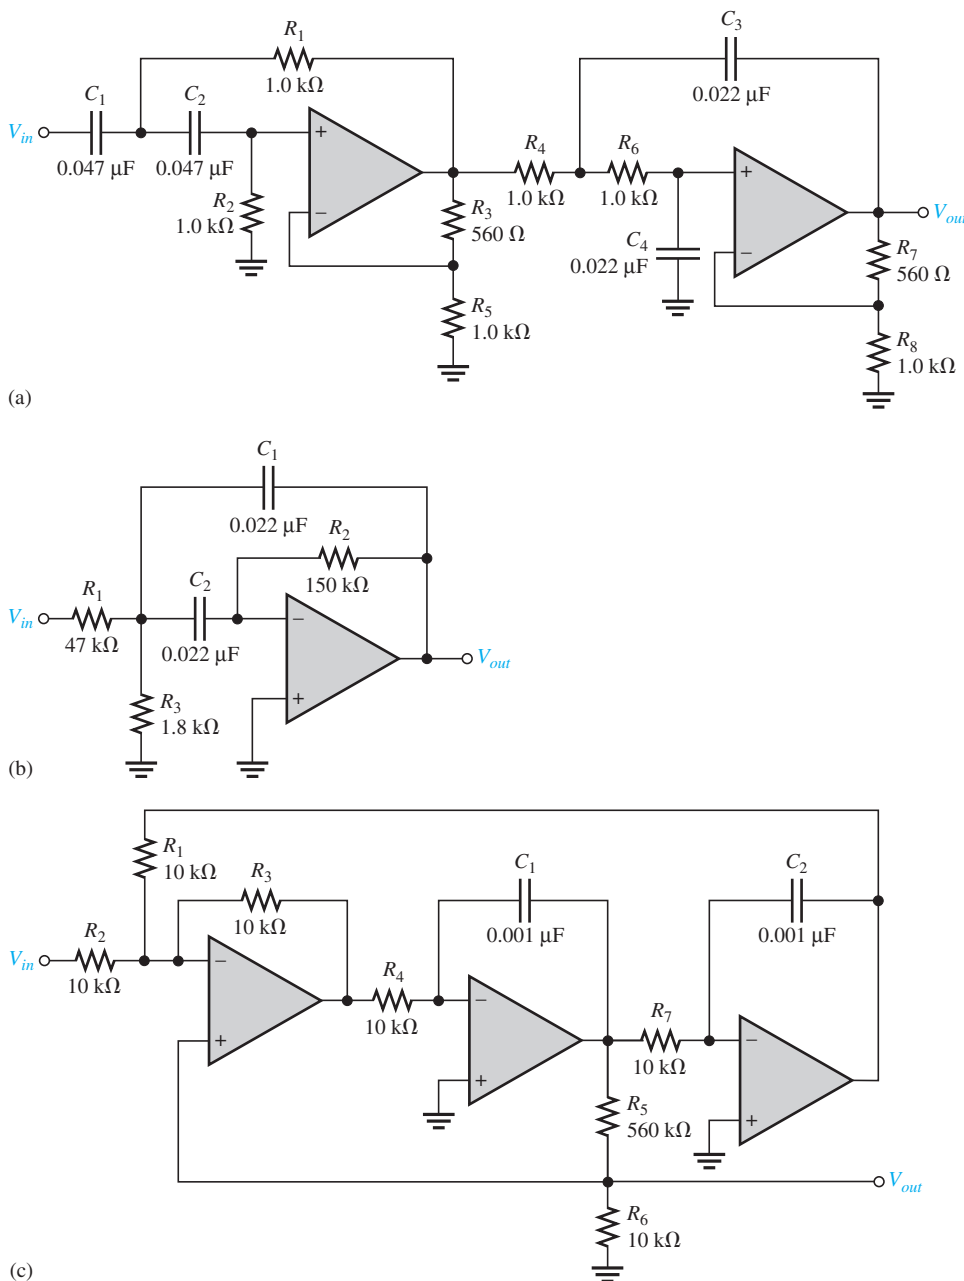

FIGURE 9-33
- 18. Identify each band-pass filter configuration in Figure 9-33.
- 19. Determine the center frequency and bandwidth for each filter in Figure 9-33.